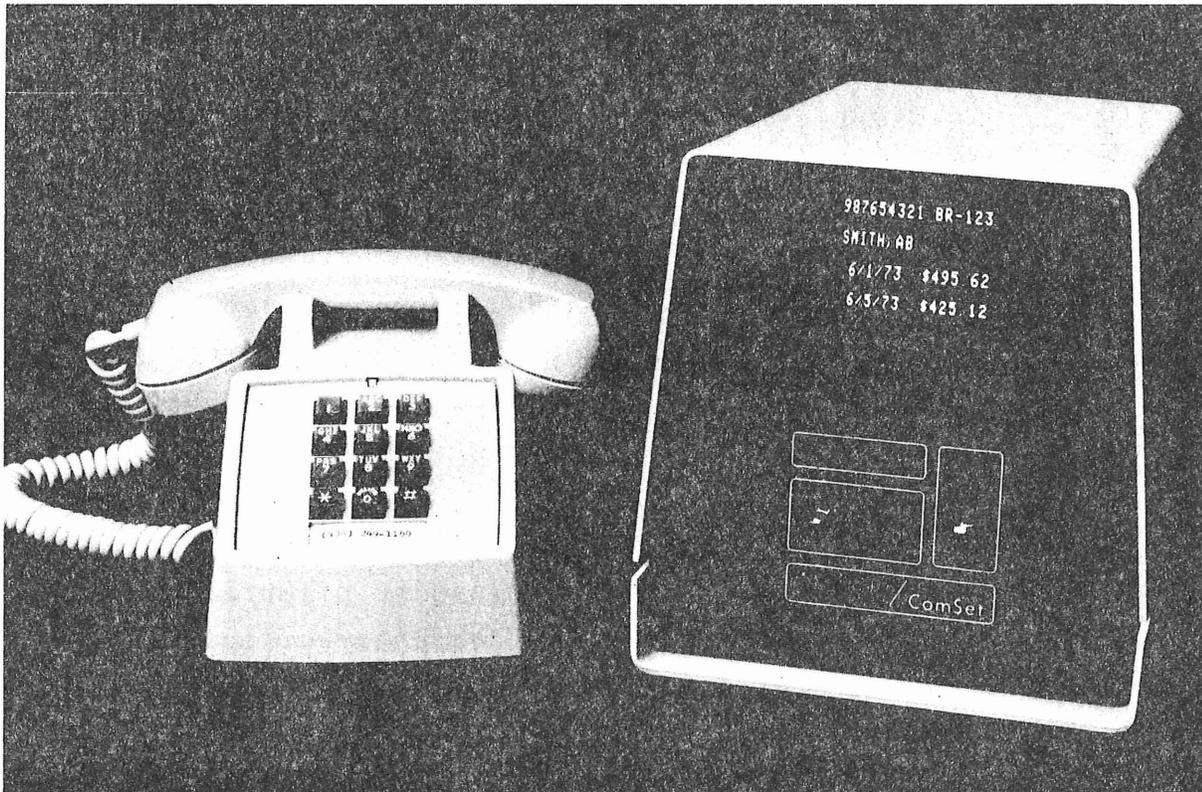

Figure 1-1. Plantronics/ComSet Terminal Installation
1.02 The Plantronics/ComSet terminal is primarily designed as the display vehicle for a data entry or inquiry/response data system using dial-up or private line networks. A typical installation (figure 1-1) consists of a standard pushbutton (DTMF) telephone and the DS150A terminal. The terminal consists of the display unit, the interface cable (mounted on the phone) and a power cord.